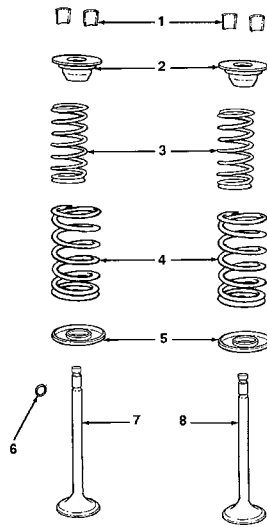
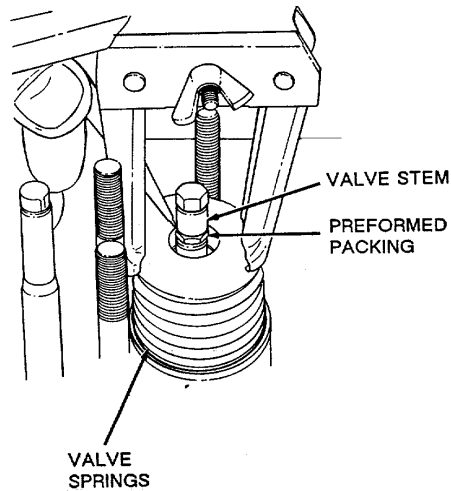

Figure 5-6. Valve Assemblies
Figure 5-8. Intake Valve Preformed Packing
- (1) Compress valve springs (see Figure 5-5) and remove locks (1, Figure 5-6).
- (2) Remove compression seats (2), springs (3 and 4), seats (5), preformed packing (6), intake valves (7), and exhaust valves (8). Discard preformed packing.
- (1) Install intake and exhaust valves (7 and 8, Figure 5-6), springs (3 and 4), seats (5) and compression seats (2).
- (2) Depress springs (3 and 4) and install locks (1).
- (3) Ensure that the damper coil is located onto the bottom of the spring and that preformed packing (6) is correctly installed on the intake valve (see Figure 5-8).